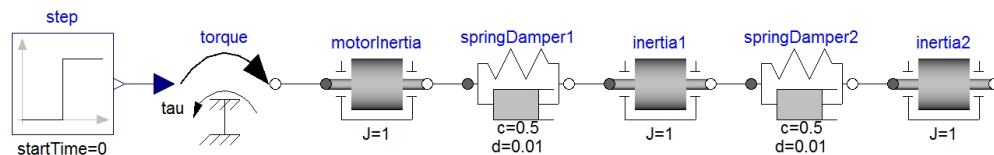

Figure 7: Dymola model of motor with two elastic loads
- (a) Start Dymola. Choose 'File' → 'New' → 'Model'. Enter the name of the model (for example 'MotorWithElasticLoads'). Let the rest be empty, and press 'OK', and then 'Accept' at the warning that will appear2. In the pane at the left hand side, press/unfold 'Modelica' to open the Modelica Standard Library. Open 'Mechanics' → 'Rotational'. Drag and drop 'Sources' → 'Torque', 'Components' → 'Inertia' and 'Components' → 'SpringDamper' to put together the motor with two elastic loads as shown in Figure 7. Use a 'Blocks' → 'Sources' → 'Step' to attach a step input to the torque.
pane, the symbol  $w$  is used for rotational speed), and compare to the previous problem. Also comment on the amount of information in the graphical view of the model (Figure 7) with the Simulink version of the overall model.